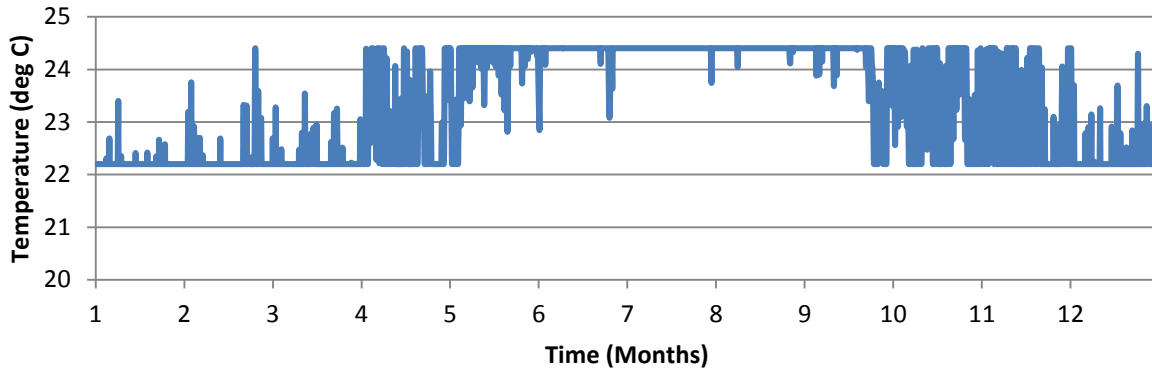

Figure 35 - Indoor temperature during the year based on set point temperatures
- Based on Figure 35, the heating and cooling set point temperatures are simultaneously active on a daily basis during three months of the year. The heating set point temperature is exclusively active during four months of the year and the cooling set point temperature is exclusively active during five months of the year.